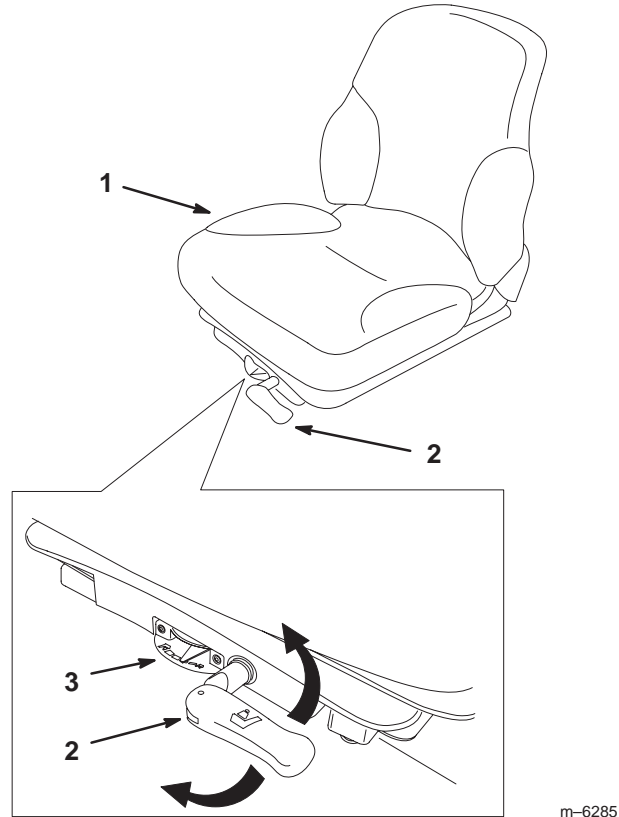

Figure 4
1. Rotate the seat cushion handle either direction to get the desired suspension (Fig. 4).
2. Use the seat suspension indicator for finding and helping remember correct seat suspension (Fig. 4).